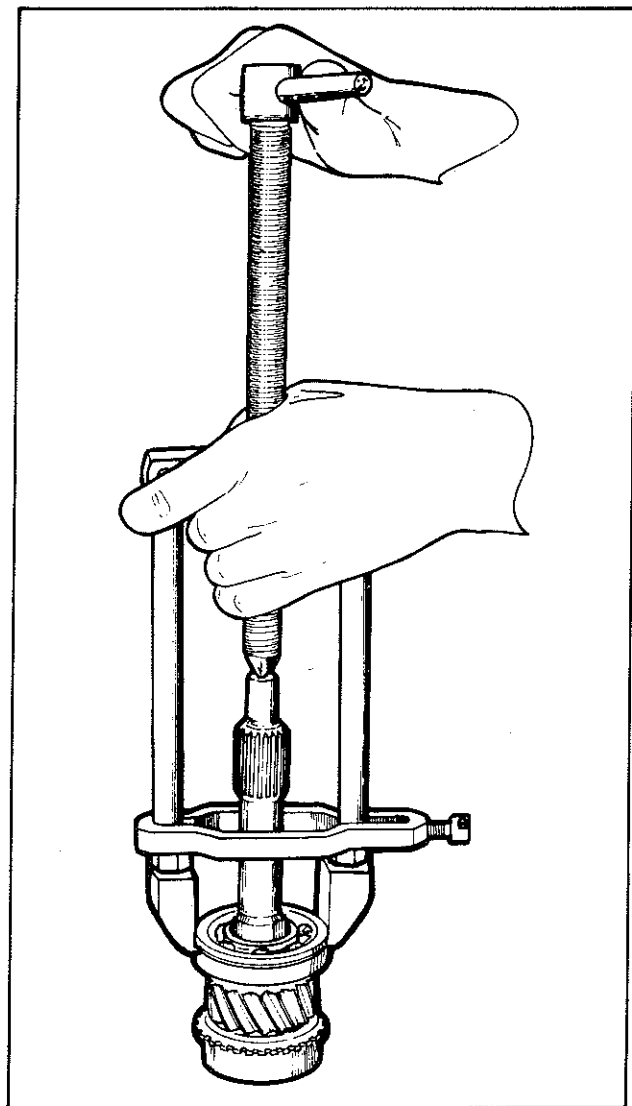

Fig. 17—Removing maindrive gear bearing
- (3) Remove the maindrive gear bearing, Fig. 17.